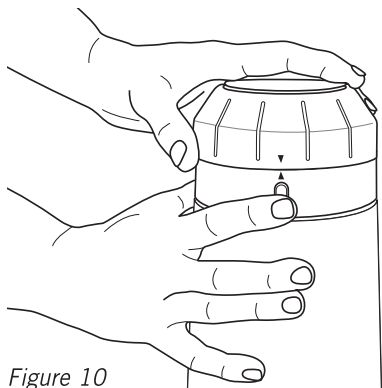

Figure 10
3. Press and hold down the 'UNLOCK' button at the rear of the motor base and with the other hand turn the grind adjustment collar anti-clockwise until the arrow on the collar is aligned with the arrow on the motor base, see Figure 10.